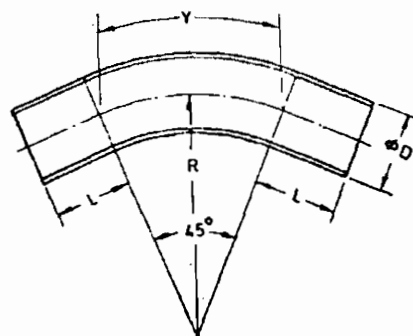

FIG. 1 45° BEND
2.2.2 Dimensions — The dimensions of 45° bends shall comply with Table 1 read with Fig. 1.
( Clauses 2.2.2 and 2.2.3, and Fig. 1 )
**2.2.2 Dimensions** — The dimensions of 90° bends shall comply with Table 1 read with Fig. 1.
( *Clauses 2.2.2, 2.2.3 and Fig. 1* )